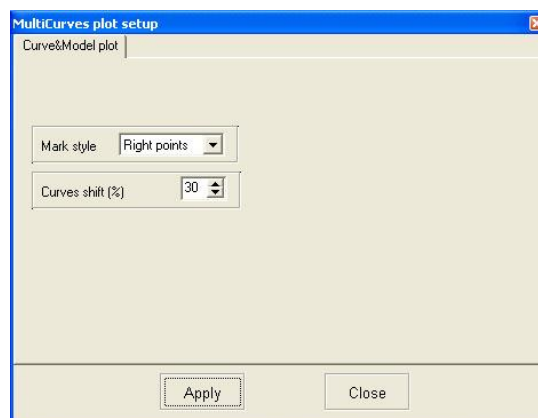

Fig. 33 Curve parameters setup dialog
Setup option runs curve parameters setup dialog (fig. 33).
**MultiCurves Plot Setup** option (fig. 33) runs curve parameters setup dialog described above.